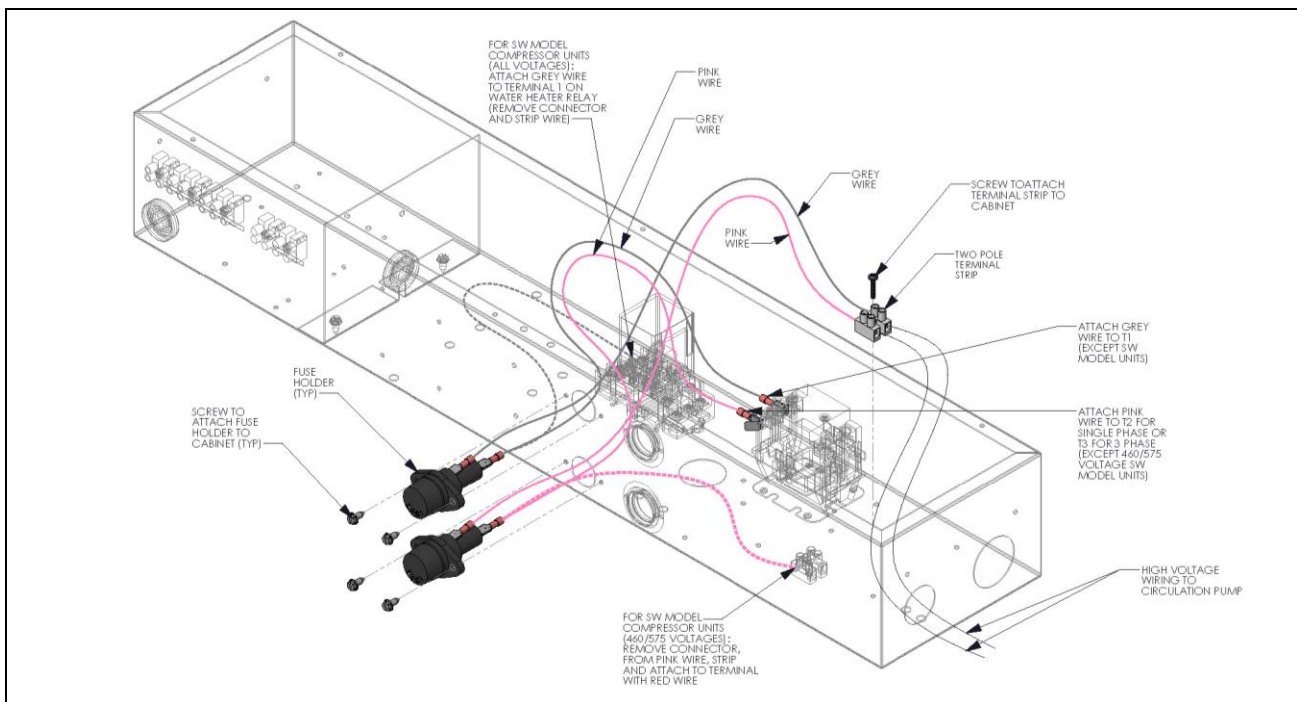

Figure 2. PW1 Assembly to Electrical Box
2. Reference Figure 2 for PW1 assembly to electrical box. Remove available hole covers from the front of the electrical box.